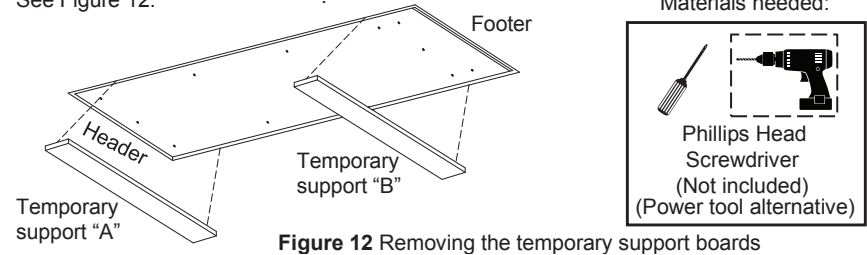

Figure 12 Removing the temporary support boards
N. Installer #1: Remove the temporary wood support boards "A" and "B" from the ceiling. See Figure 12.